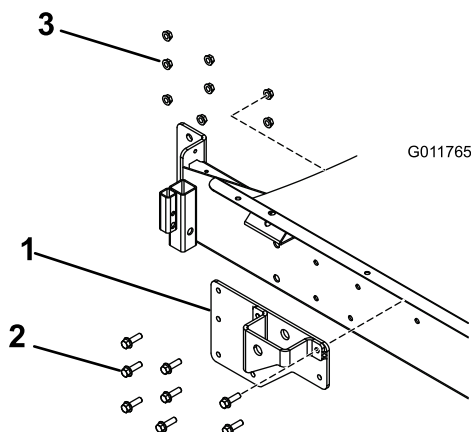

Figure 3
4. Install the left and right spray cylinder brackets to the tank skid as shown in Figure 3. Secure each bracket to the frame using eight bolts (3/8 x 1-1/4 inches) and flange nuts (3/8 inch).